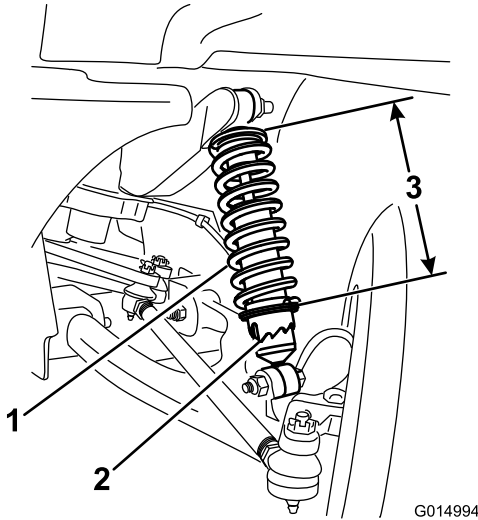

Figure 53
3. Using Toro tool number 6010, rotate the collar on the shock absorber to change the length of the spring (Figure 53).